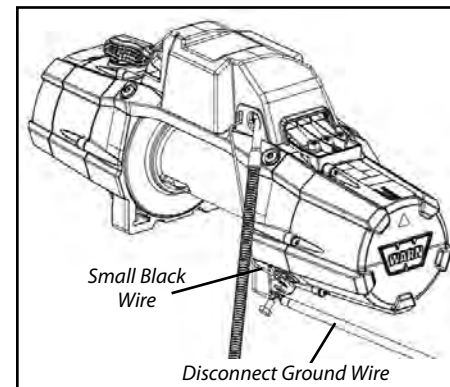

Figure 1
2. Disconnect the ground cable on the under side of the winch (see Figure 1). Make sure the small black wire that connects to the control pack is disconnected and hanging freely.
5. Remove the four (4) flat head torx drive screws located on the underside of the tie plate. NOTE: Rope may need to be spooled out to complete this step.